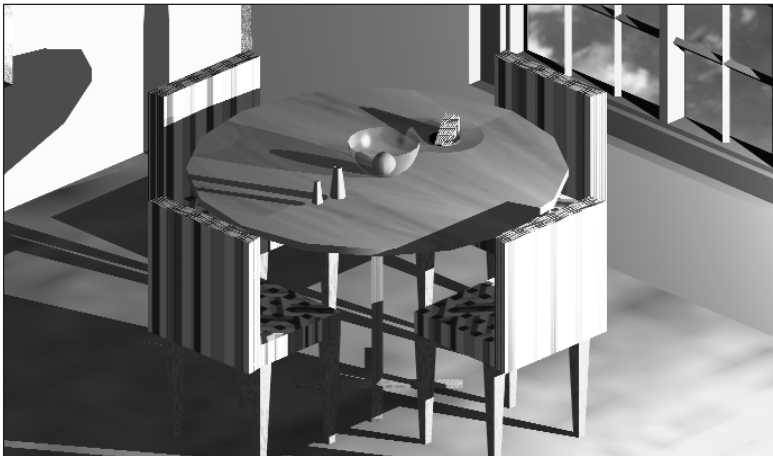

Figure 25-23: The final rendering with shadows, transparent objects, and a background
9. The rendering should look like Figure 25-23, only a lot better because you see it in color on your screen. Save your drawing.